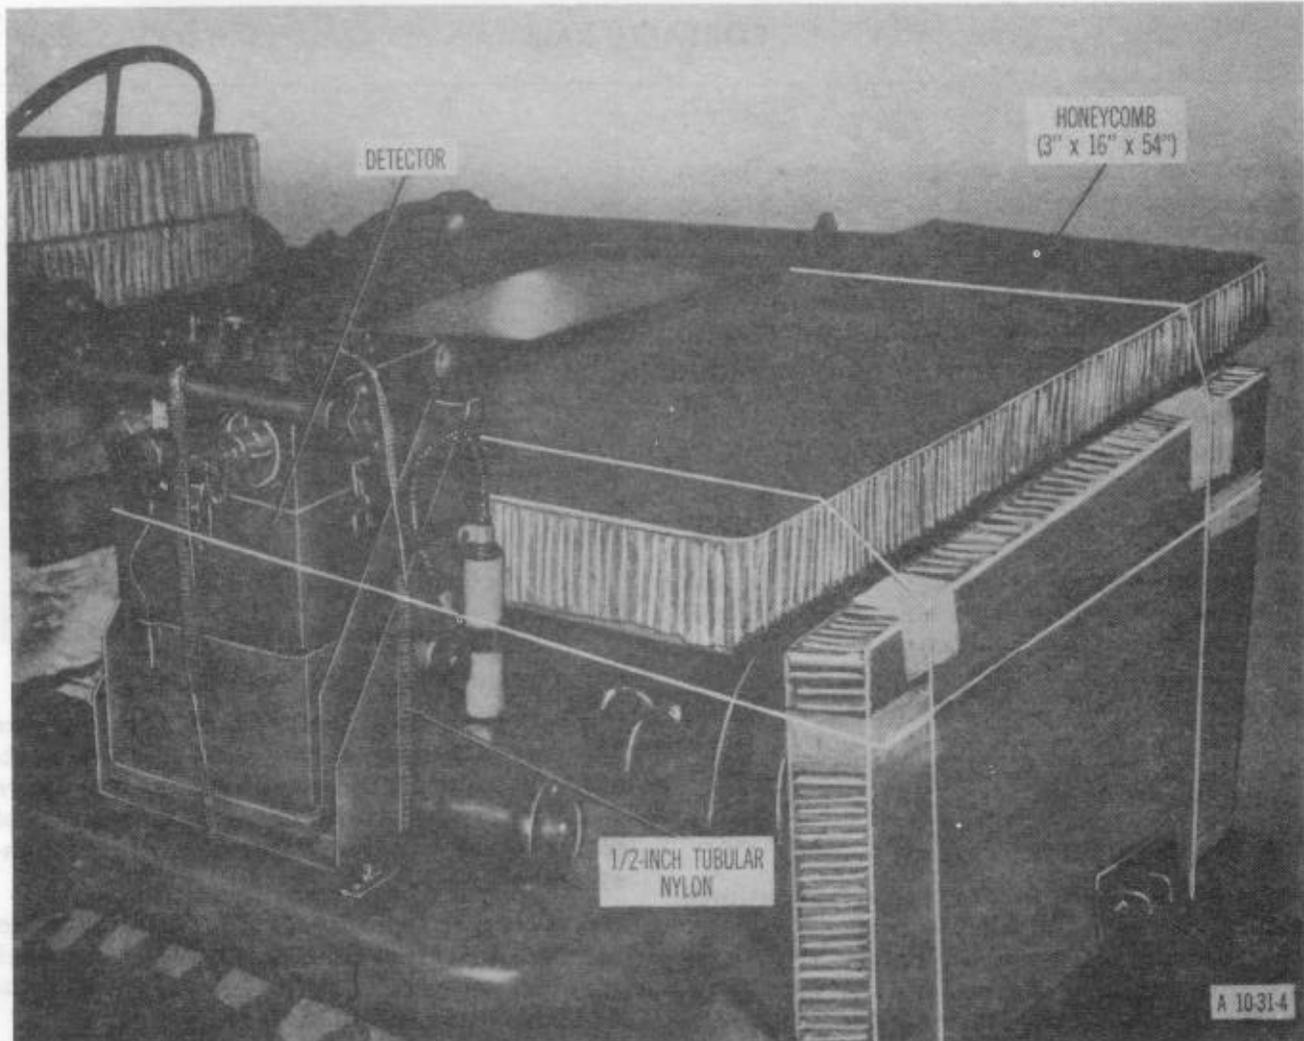
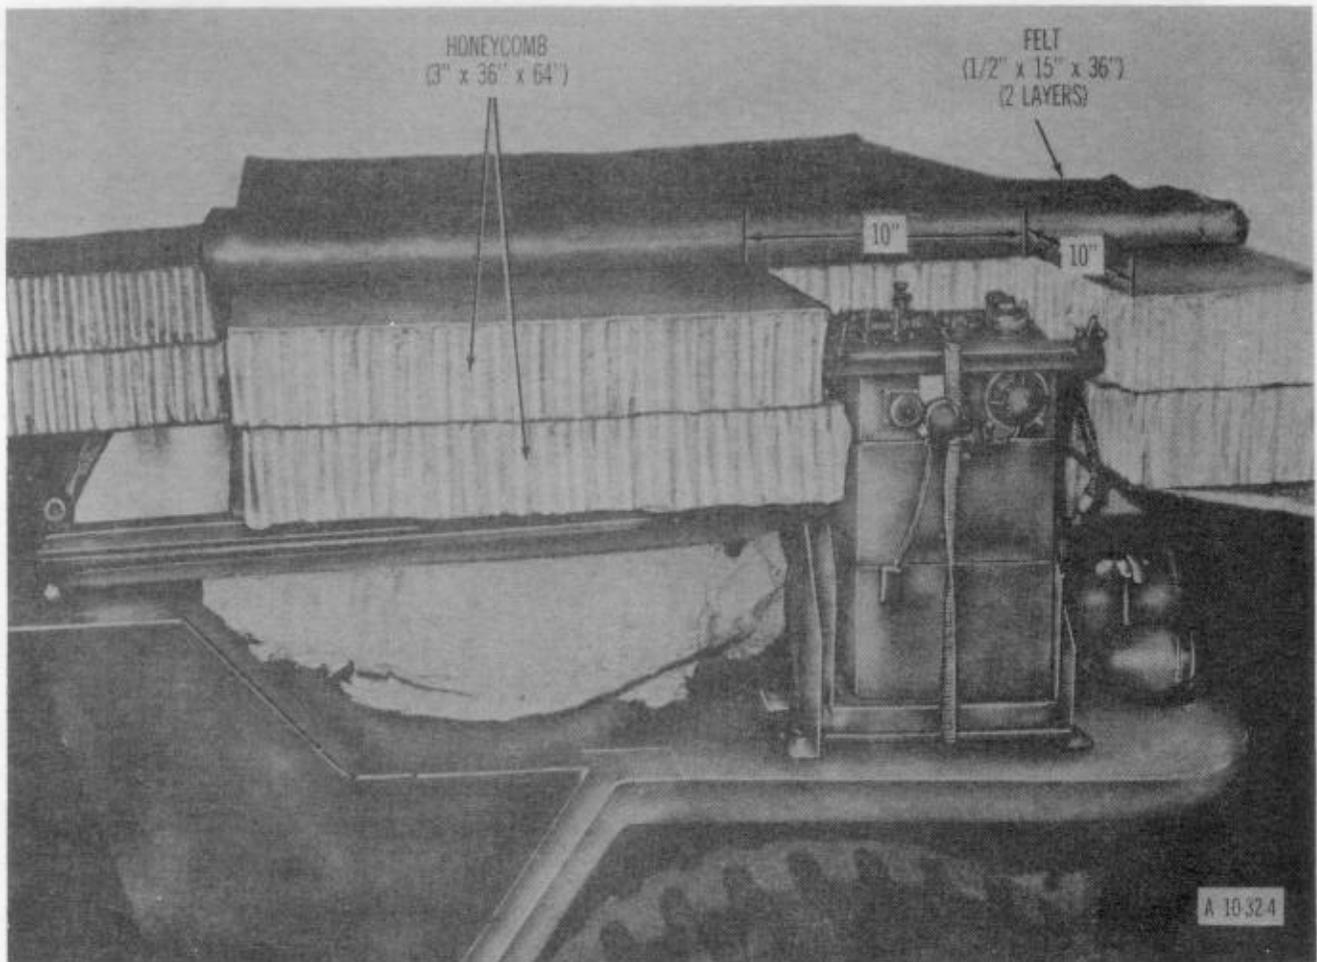

Figure 7-2. Detector secured.
Figure 7-3. Honeycomb and felt positioned on hood.
b. Securing Detector. Safety the detector using one turn of ½-inch tubular nylon as shown in figure 7-2.
(fig 7-2). Position two 3- by 36- by 64-inch pieces of honeycomb on hood with a 10- by 10-inch cutout to fit around the detector as shown in figure 7-3. Position two ½- by 15- by 36-inch layers of felt or other suitable material on top of honeycomb (fig 7-3).